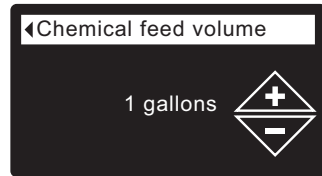

FIG. 87
7. Press the SELECT (O) button to display the Chemical feed volume or Chemical feed timer menu (See Figures 87 & 88).